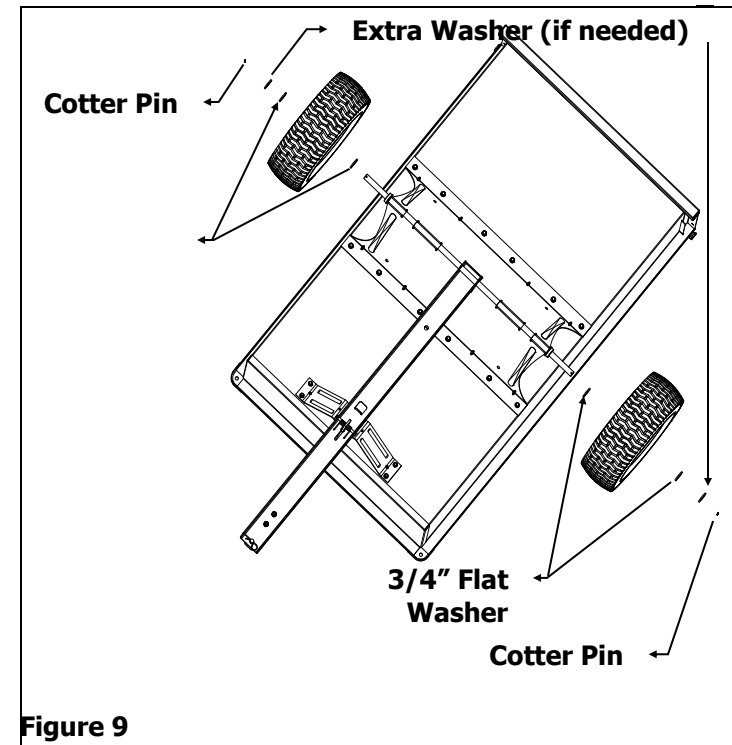

Figure 9
9. Place 3/4" Flat Washer one on each side of Axle next to Undercarriage. Place Wheel onto Axle, place another 3/4" Flat Washer on outside of wheel. Repeat the Wheel attachment step for the other wheel. Extra 3/4" Flat Washers are included, to be used on the outside Wheel, if needed as spacers, to insure minimum clearance between the undercarriage and Wheels. Secure Wheel in place by inserting Cotter Pin through hole in the end of Axle and spreading the legs of the Cotter Pin outward. See Figure 9.